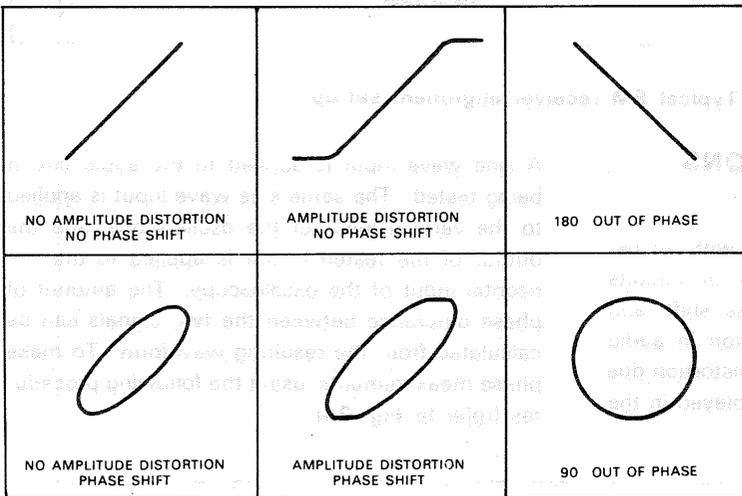
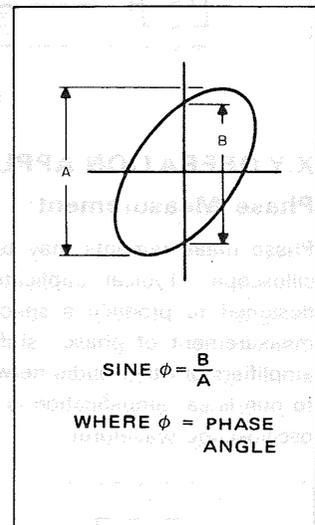

Fig. 25 Typical phase measurement oscilloscope displays
Fig. 26 Phase shift calculation
- Some typical results are shown in Fig. 25. If the two signals are in phase, the oscilloscope trace is a straight line. If the vertical and horizontal gain are properly adjusted, this line is at 45° angle. A 90° phase shift produces a circular oscilloscope pattern. Phase shift of less (or more) than 90° produces an elliptical oscilloscope pattern. The amount of phase shift can be calculated from the oscilloscope trace as shown in Fig. 26.